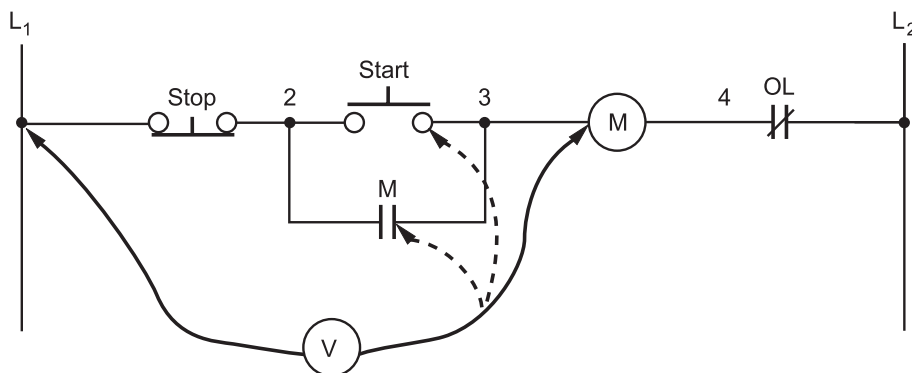

Figure 7—Point-to-point testing with a voltmeter
3. Leaving one lead at L_1 , move the other voltmeter lead to point 3 terminal on the starter coil, as shown in Figure 7.
- Test each of the remaining terminals at point 3 to ensure that the wires are properly connected. Connect the voltmeter as shown in Figure 7, by the two dotted lines in turn.